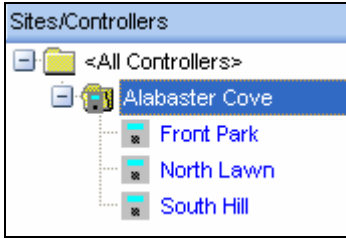

Figure 9.2.2
2. Select a Site / Controller that you want to send the Access Control Code Set to by highlighting it (Figure 9.2.2).